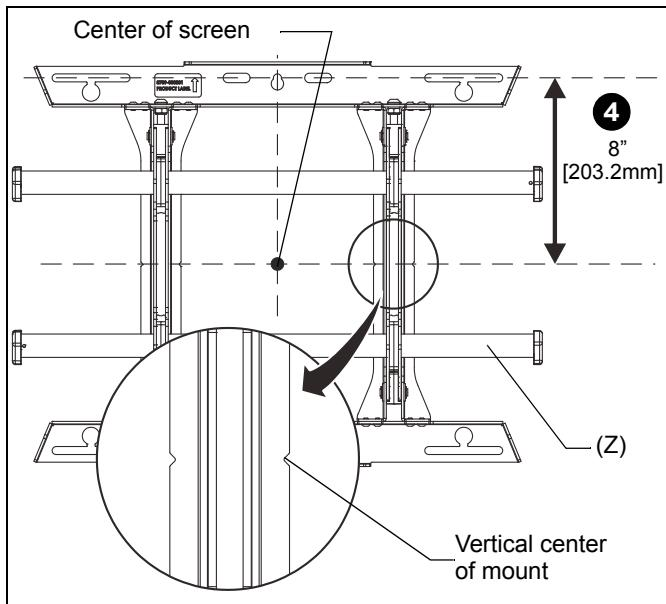

Figure 1
- Line up the notches on mount (Z) with center of screen marking to determine vertical center. (See Figure 1)
- Measure up 8" (203.2mm) from the center point to mark location of the upper mounting slots. (See Figure 1)
2. Line up the notches on mount (Z) with center of screen marking to determine vertical center. (See Figure 1)
3. Measure up 8" (203.2mm) from the center point to mark location of the upper mounting slots. (See Figure 1)